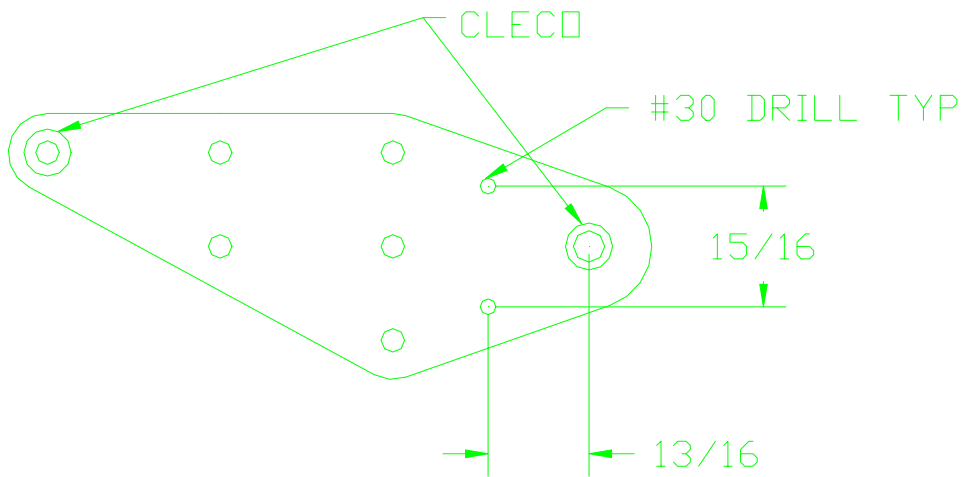

Figure 9.13.2
- 6) Cleco four rear wing attach brackets (FUS-69) together. Figure 9.13.2.
- 7) Layout and drill two new #30 holes as in Figure 9.13.2.